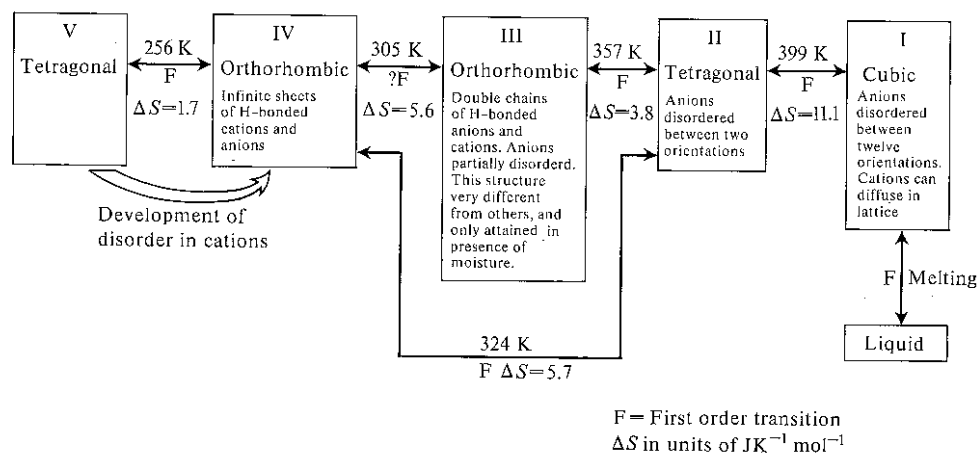

Fig. 3. Phase transitions in Ammonium Nitrate⁶
The transitions involving ammonium nitrate are particularly interesting; it may undergo up to 5 transitions between -20°C and its melting point (Fig. 3) ⁵.
5. Construct a table listing the phase transitions that you observed for ammonium nitrate. Include columns for a) the onset temperature of the transition, b) the temperature of the transition at its peak, c) the magnitude of the transition in J/g, and 4) an assignment for each transition which relates to those given in Fig. 3.